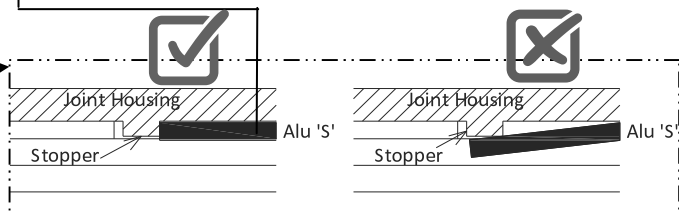

Figure 6.4
- ◆ Stop in the busway until the phase of the busbars to stopper. It shall not be over-lapped the stopper as per Figure 6.4.
- ◆ Each busbars phase shall be separated by the fiber insulation board Figure 6.4